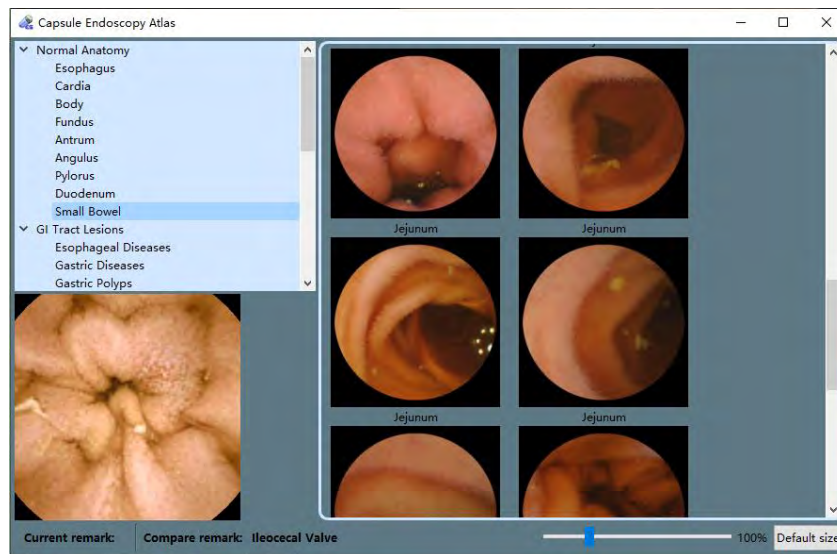

Figure 4-51: Capsule Endoscopy Atlas Interface
3. In the main software interface, select “Tool”☐“Capsule endoscopy atlas” to access the capsule endoscopy atlas interface. Select a landmark of the digestive tract, for instance “Esophagus” in the left column, the images added in steps 1-2 will be displayed, as shown in Figure 4-51.